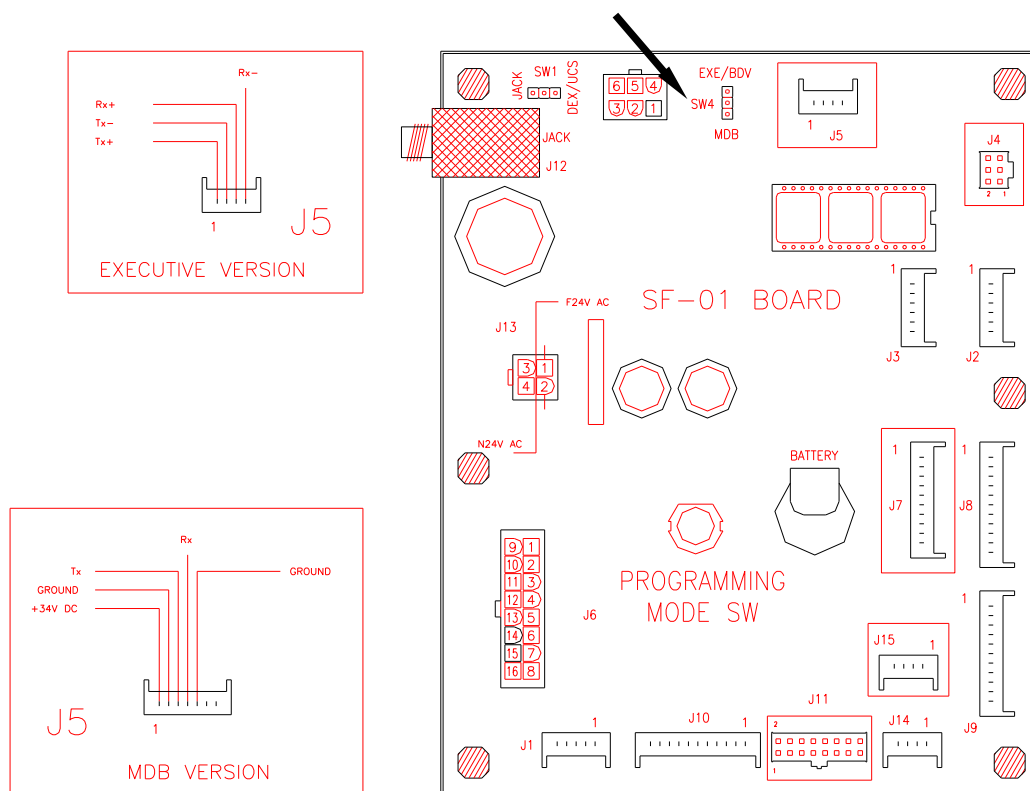

FIG. 3.5 – TURNING MDB / EXECUTIVE - SFO1 BOARD
- to modify this parameter, move the “dip” pushbutton positioned between the “**MDB**” and the “**EXE**” connector and follow serigraphy on the electric board (rif. Fig. 3.5)